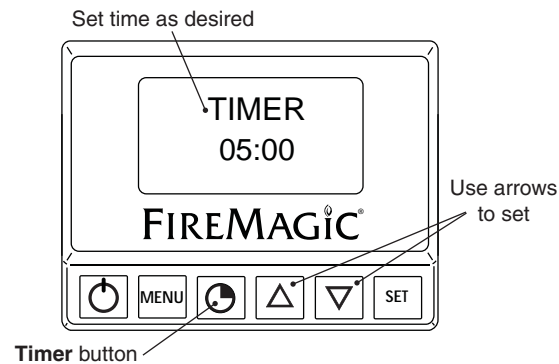

Fig. 22-1 Timer screen
1. Press the timer button. Use the arrows to set the desired amount of time (see Fig. 22-1.)